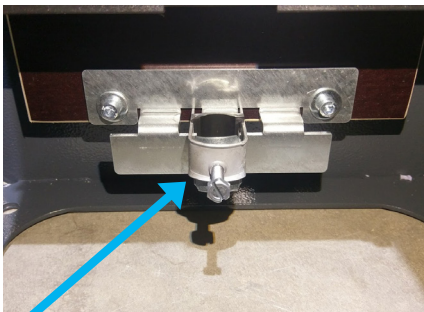

Fig. 7: Example of strain relief
7. A clamp is required for the strain relief on the cable (see figure 7);
8. Set the isolating switches and earth leakage circuit breaker to the 'IN- (1)' status;